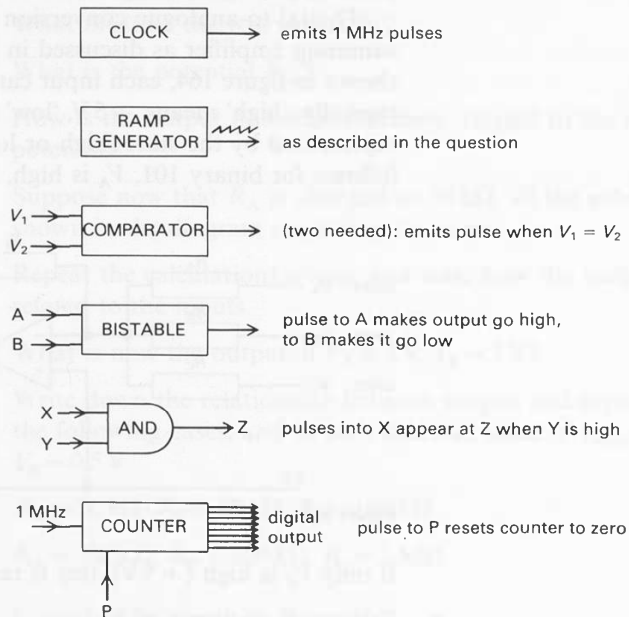

Figure I65
- a** Use the units described in figure I65 to make a block diagram of this system.